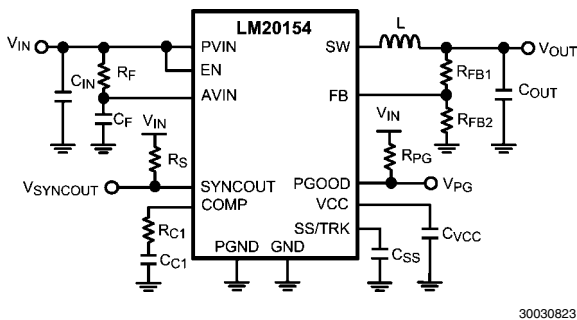

FIGURE 2. Typical Application Circuit
The LM20154 switching regulator features all of the functions necessary to implement an efficient low voltage buck regulator using a minimum number of external components. This easy to use regulator features two integrated switches and is capable of supplying up to 4A of continuous output current. The regulator utilizes peak current mode control with nonlinear slope compensation to optimize stability and transient response over the entire output voltage range. Peak current mode control also provides inherent line feed-forward, cycle-by-cycle current limiting and easy loop compensation. The fixed 1 MHz operating frequency minimizes the inductor size while still achieving efficiencies up to 96%. The precision internal voltage reference allows the output to be set as low as 0.8V. Fault protection features include: current limiting, thermal shutdown, over voltage protection, and shutdown capability. The device is available in the eTSSOP-16 package featuring an exposed pad to aid thermal dissipation. The LM20154 can be used in numerous applications to efficiently step-down from a 5V or 3.3V bus. The typical application circuit for the LM20154 is shown in *Figure 2* in the design guide.
This section walks the designer through the steps necessary to select the external components to build a fully functional power supply. As with any DC-DC converter numerous trade-offs are possible to optimize the design for efficiency, size, or performance. These will be taken into account and highlighted throughout this discussion. To facilitate component selection discussions the circuit shown in *Figure 2* below may be used as a reference. Unless otherwise indicated all formulas assume units of amps (A) for current, farads (F) for capacitance, henries (H) for inductance and volts (V) for voltages.
pins, a high frequency RC filter is required between PVIN and AVIN. These components are shown in *Figure 2* as C_F and R_F . The required value for R_F is 1Ω. C_F must be used. Recommended value of C_F is 1.0 μF. The filter capacitor, C_F should be placed as close to the IC as possible with a direct connection from AVIN to AGND. A good quality X5R or X7R ceramic capacitor should be used for C_F .